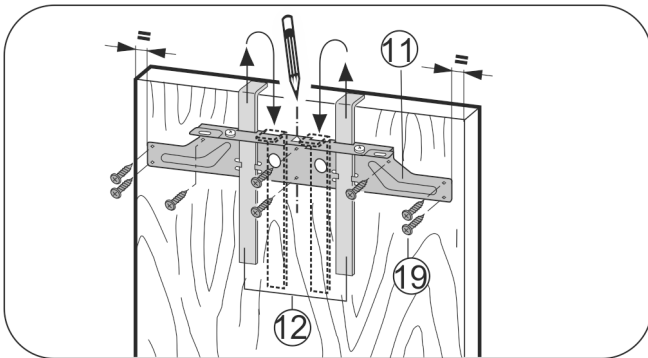

Fig. 29
- ▶ Hang the crosspiece Fig. 29 (11) on the inside of the unit door using the fitting aids Fig. 29 (12).
- ▶ Align the crosspiece Fig. 29 (11) to the middle of the door.
- ▶ Secure the crosspiece Fig. 29 (11) with at least 6 screws Fig. 29 (19).
- ▶ Secure the crosspiece Fig. 29 (11) with 4 screws Fig. 29 (19) at the edge.
- ▶ Lift up fitting aids Fig. 29 (12), turn round and insert into the adjacent openings.